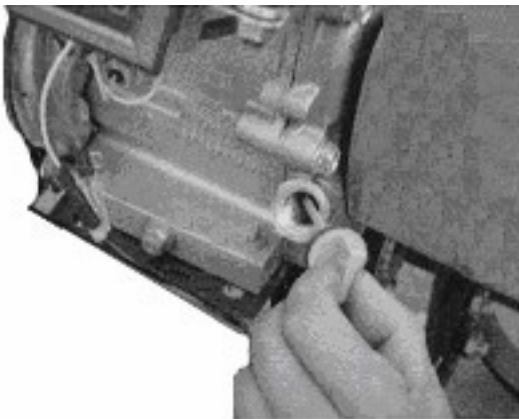

Figure 2
- Screw out the oil dipstick of the engine and clean it by wiping it (See Fig. 2).